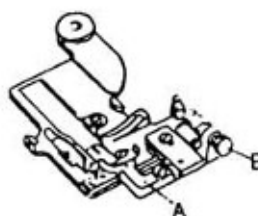

Fig. 12
C. Adjust the Pressing Plate (Fig. 12)